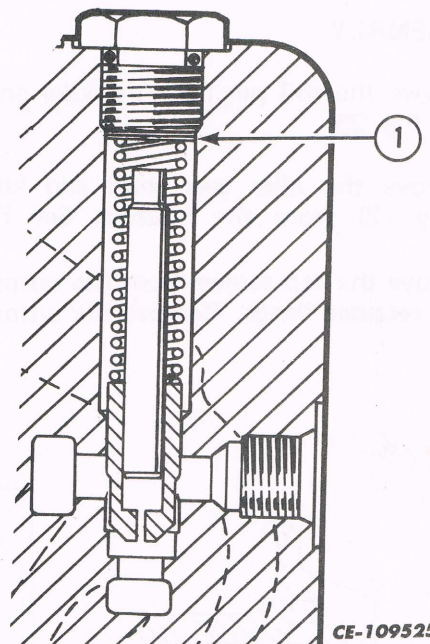

Fig. 19
1. Disconnect the IPTO pressure tube assembly (1) from the 1/4" tee in the rear frame. Install 0 - 2068 kPa (0 - 300 psi) gauge PLT-860-4 (3) with connector PLT-861-3 (2). See Fig. 19.
4. If the pressure reading is less than 1379-1585 kPa (200 - 230 psi) remove the plug and install shim(s) (1) under the pressure regulating valve plug (4) until pressure is within specifications. See Fig. 19 and 20.
IPTO in the full engagement position and the 1379 - 1585 kPa (200 - 230 psi) IPTO should be obtained if the sealing rings in the IPTO clutch piston and sealing rings with the drive shaft bushing are sealing properly. See Figs. 19 and 21.